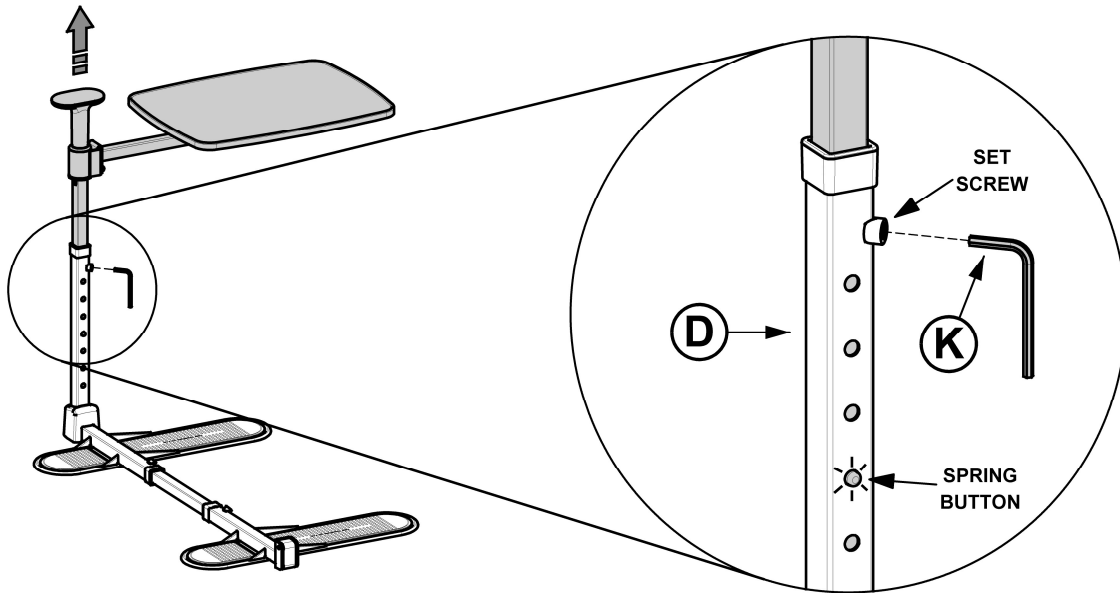

FIGURE 11
11. Depress SPRING BUTTON and adjust upright **D** to desired height as shown in *FIGURE 11*. Tighten SET SCREW with Tool **K** to secure.